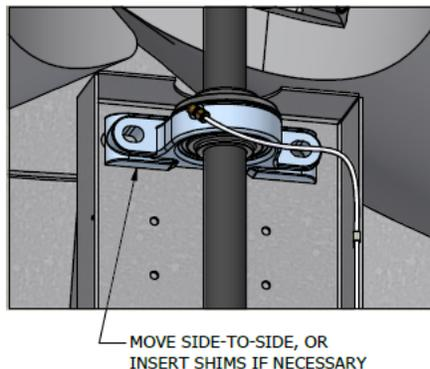

Figure 55: Adjustments to correct tip clearance
- f. The shaft can be tilted forward or backward by inserting shims between the bearing and the support plate, either on top or bottom per **Figure 55**.